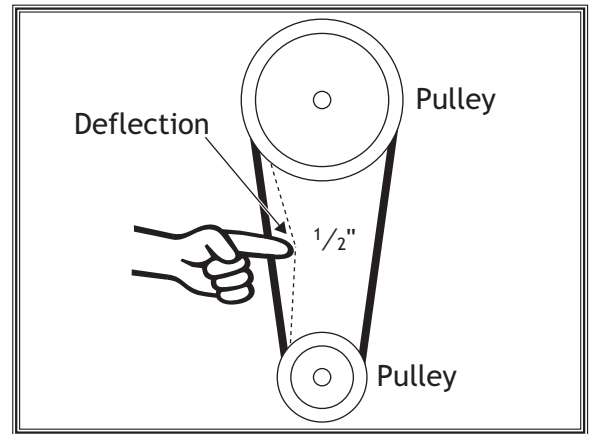

Figure 17. Proper belt deflection.
**Note:** When properly tensioned, the belt should deflect about  $\frac{1}{2}$ " when moderate pressure is applied to the belt mid-way between upper and lower pulleys, as shown in **Figure 17**.